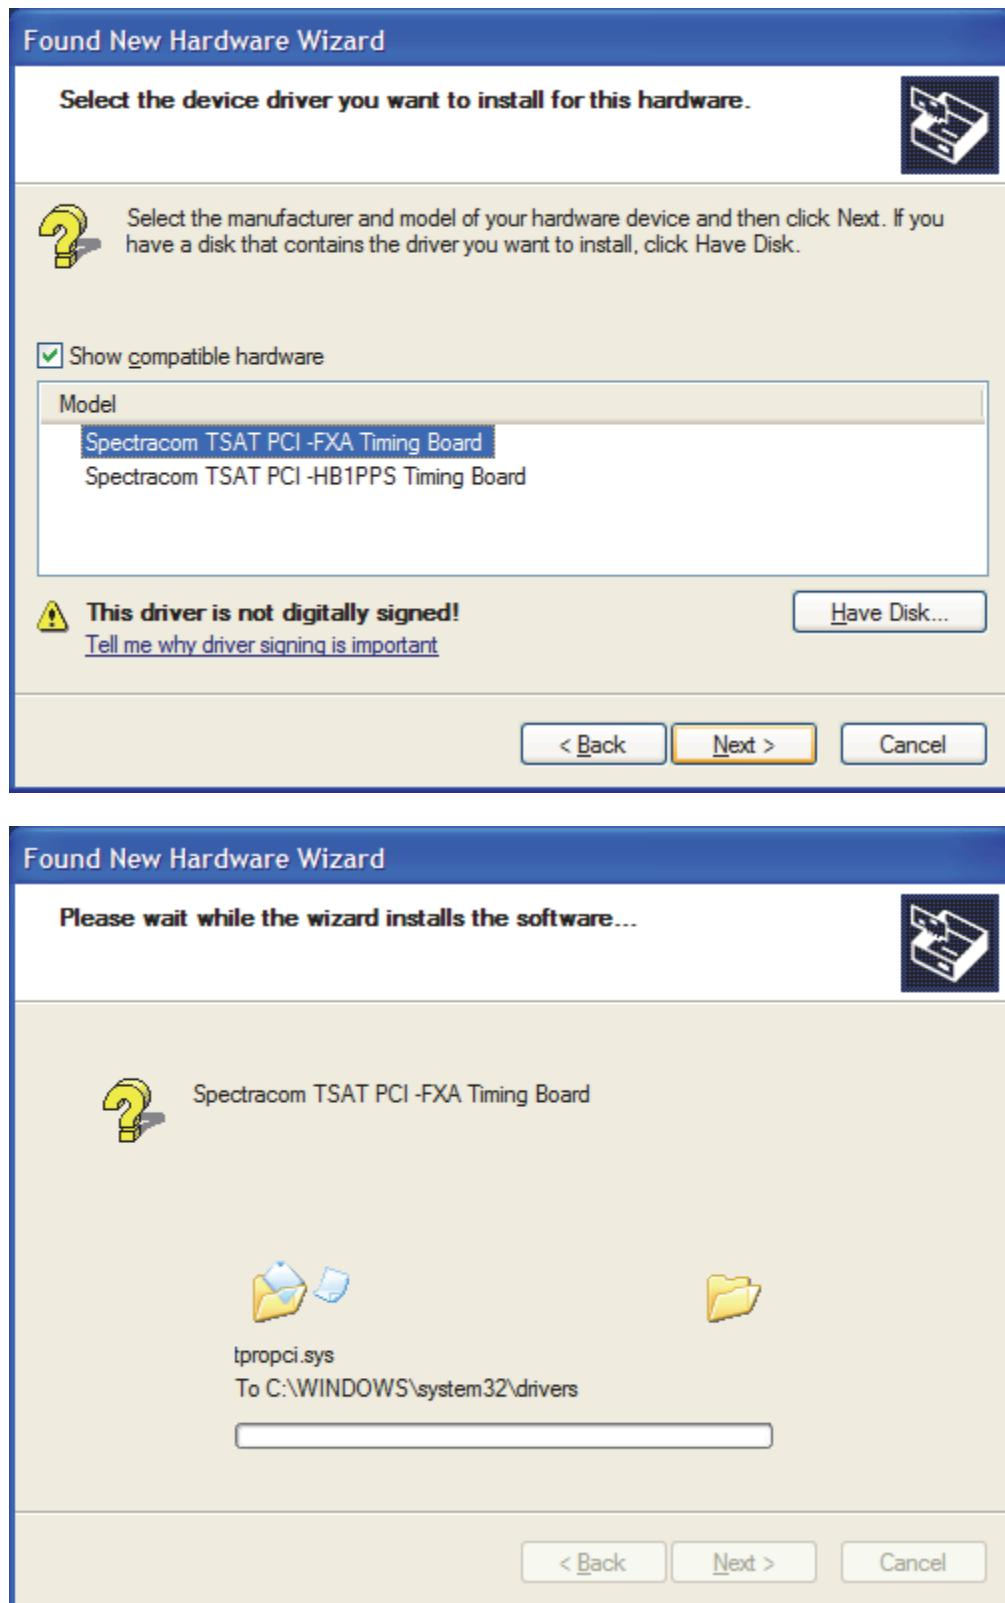

Figure 5-13. Found New Hardware Wizard - Compatible Hardware
10. Select **Spectracom TSAT PCI-FXA Timing board** and select **Next**. See Figure 5-13.